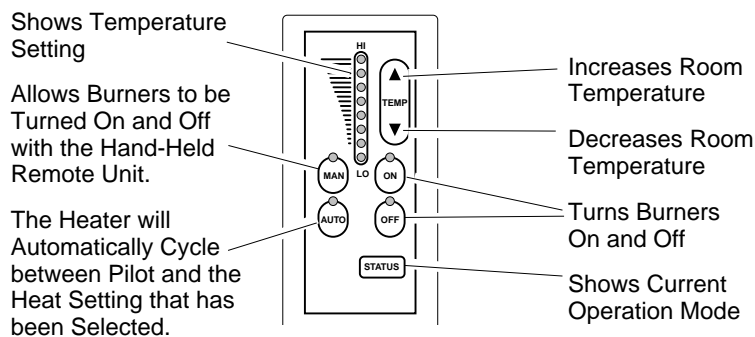

Figure 55 - Hand-Held Thermostat Remote Control Unit Selections (CGHRCT)
- Select the MAN (manual) or AUTO button on the hand-held remote control unit (see Figure 55).